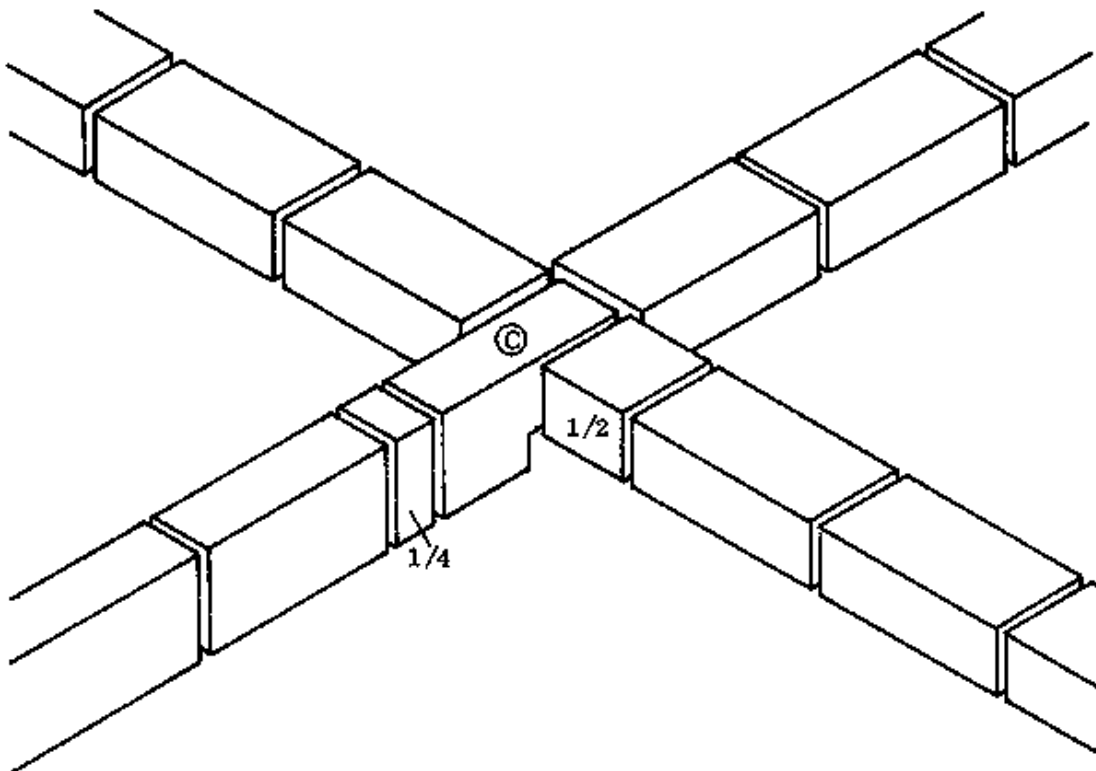

Fig. 1a 1st COURSE
- COMMON BLOCKS: The first course of the thin wall is bonded into the thick one by a $\frac{3}{4}$ block (block A) which must be shaped in such a way that the second course of the thick wall can overlap it (block B). Block A is followed on one of its stretcher sides by a $\frac{1}{2}$ block, while all other directions are continued with full blocks (Fig. 1a shows the first courses).